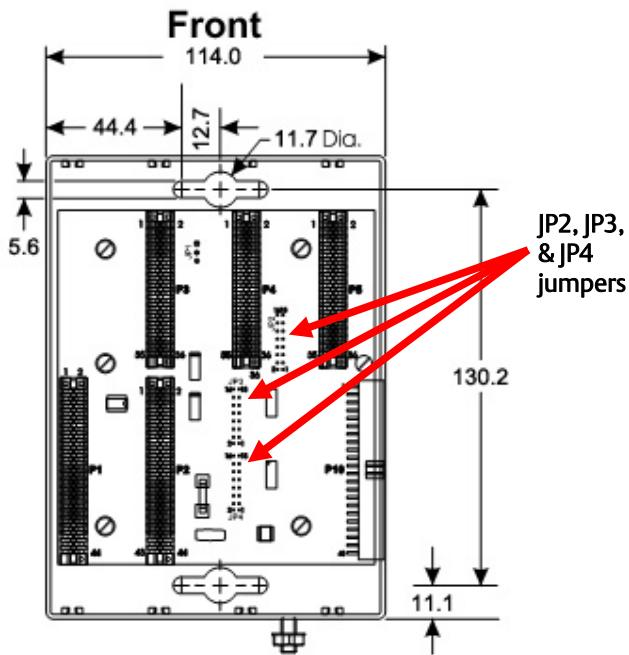

Figure 2. ControlWave Micro 4-Slot Base Housing Dimensions (in millimeters)
- **Base housing.** Position as desired on the enclosure mounting plate and locate mounting holes on the plate using the ControlWave Micro as a template. See *Figure 2* for dimensions. Drill and tap mounting holes in the plate. Position the ControlWave Micro over the tapped locations and attach to the plate with four screws (not provided). Torque the screws to approximately 1.1 to 1.4 N·m.
Note: If you are attaching an expansion housing to a 4-slot or 8-slot base housing, remove the three bus terminators (JP2, JP3, and JP4, shown on *Figure 2*) from the backplane of the 4-slot or 8-slot base housing.
Base housings have a ground lug (see *Figure 2*) that accommodates up to 5.19 mm (4 AWG) wire size. After you install the base and any expansion housings and **before** you install any modules in the base or expansion housings, you **must** run a ground wire between the base housing ground lug and a known good earth ground. All earth grounds must have an